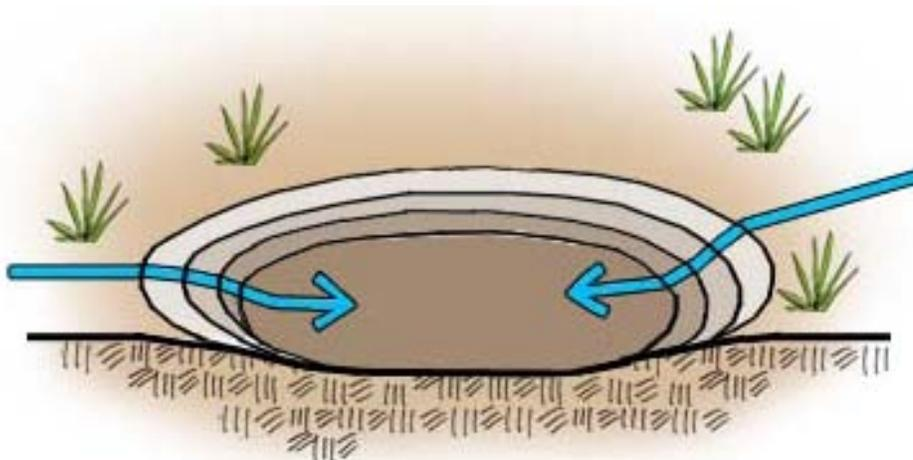

Figure 24. Localized Depression
- **Localized Depression** - This is the simplest form of microbasin, comprising a depression without berms (Figure 24). A variation of this type of basin would be depressing the interior of a parking island within a curb. Water collection potential could be further augmented by curb cuts.